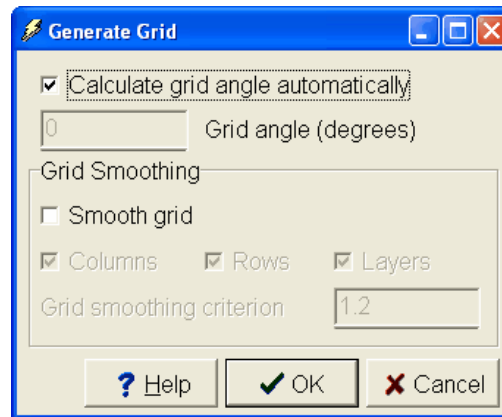
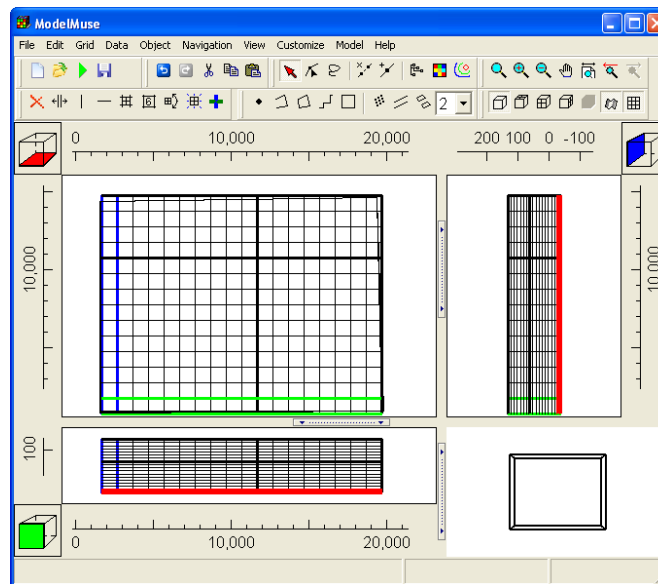

Figure 13. The Generate Grid dialog box.
Figure 14. Grid and objects.
2. The user selects **Grid|Generate Grid...**  and the **Generate Grid** dialog box appears (fig. 13). When the user clicks on the **OK** button, the grid is created (fig. 14).